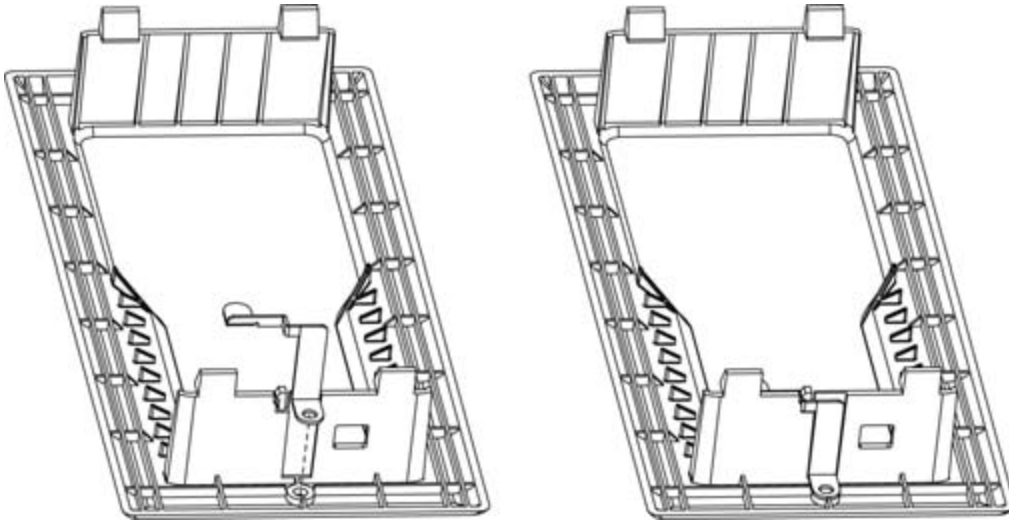

Figure 3: Grounding Clip and the Flush-Mount Bezel
4. Verify that the Grounding Clip is attached to the Flush-Mount Bezel. Attach if needed (Figure 3).